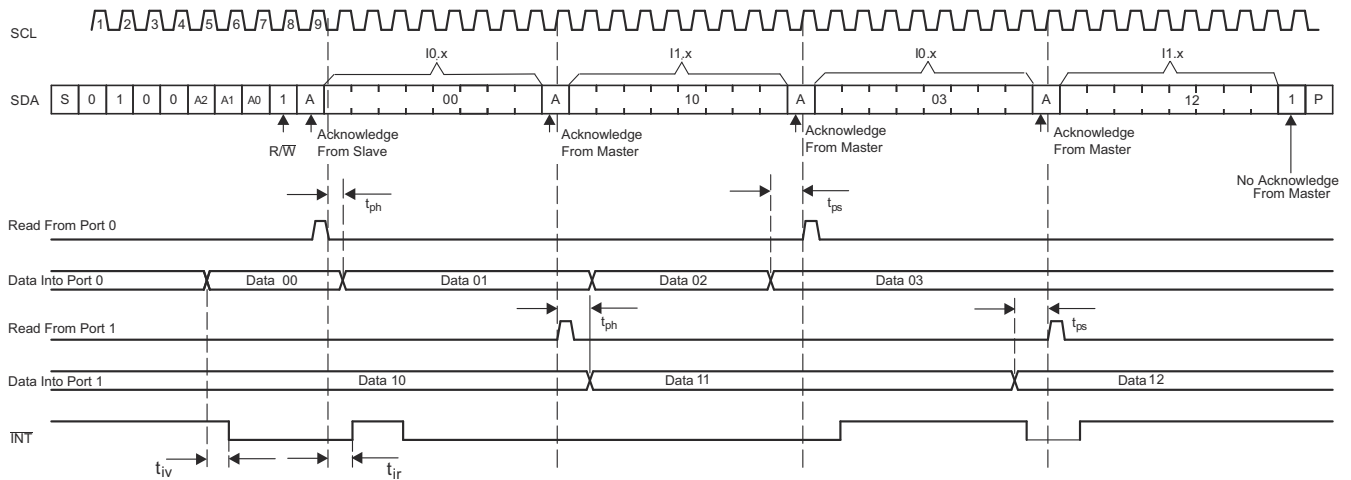

**Figure 8-10. Read From Register**
The bus master first must send the PCA9555 address with the least-significant bit set to a logic 0 (see Figure 8-6 for device address). The command byte is sent after the address and determines which register is accessed. After a restart, the device address is sent again, but this time, the least-significant bit is set to a logic 1. Data from the register defined by the command byte then is sent by the PCA9555 (see Figure 8-10 through Figure 8-12).
- This figure eliminates the command byte transfer, a restart, and slave address call between the initial slave address call and actual data transfer from the P port (see Figure 8-10 for these details).
- B. This figure eliminates the command byte transfer, a restart, and slave address call between the initial slave address call and actual data transfer from the P port (see Figure 8-10 for these details).